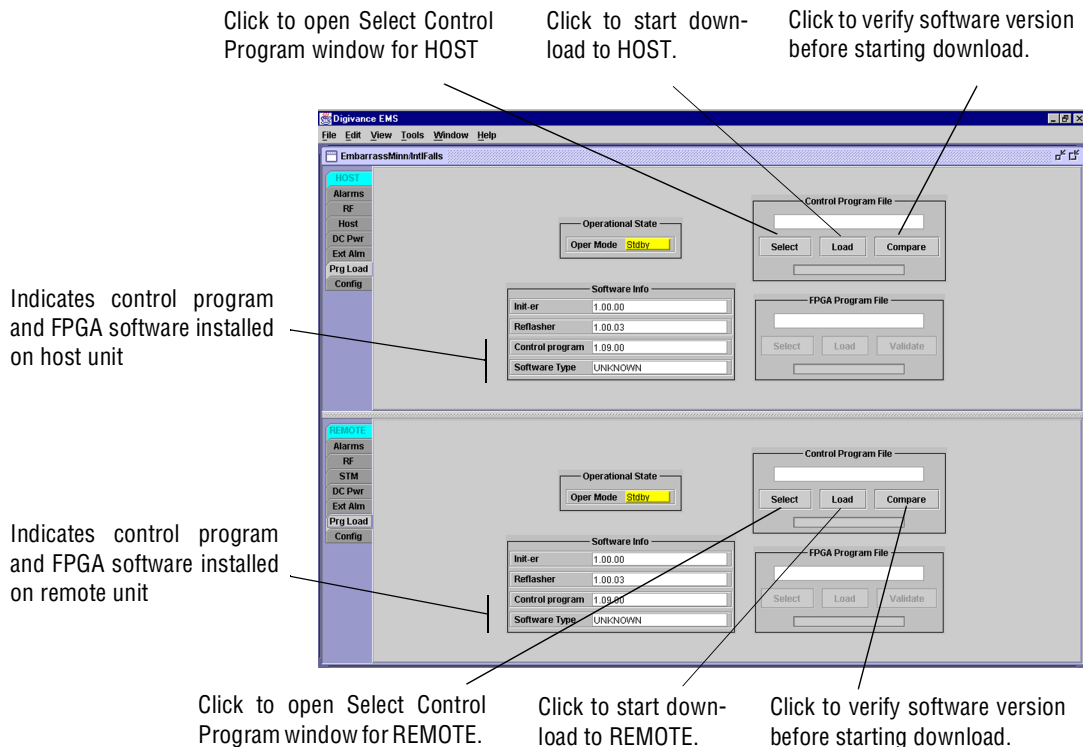
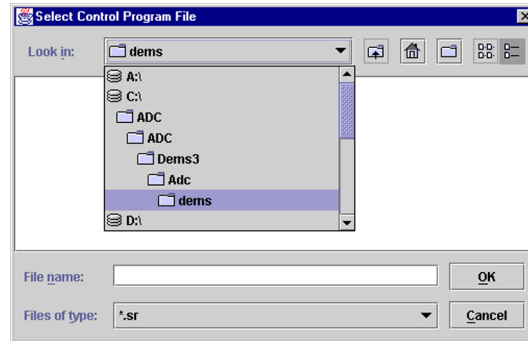

Figure 3-3. HOST and REMOTE Prg Load Displays - Control Program Download
Figure 3-4. Select Control Program File Window
1. Click on the **HOST Prg Load** tab and on the **REMOTE Prg Load** tab. The **HOST Prg Load** display and the **REMOTE Prg Load** display will open within the EMS main window as shown in Figure 3-3.
3. Click on the **Select** button (see Figure 3-3). The **Select Control Program File** window will open as shown in Figure 3-4. Browse until the folder where the Control Program files are located is selected and the software files are displayed in the window. Select the first Control program file and then click on the **OK** button.
6. To start the Control program download (if necessary), click on the **Load** button (see Figure 3-3). When downloading is complete, verify that the program has loaded correctly.